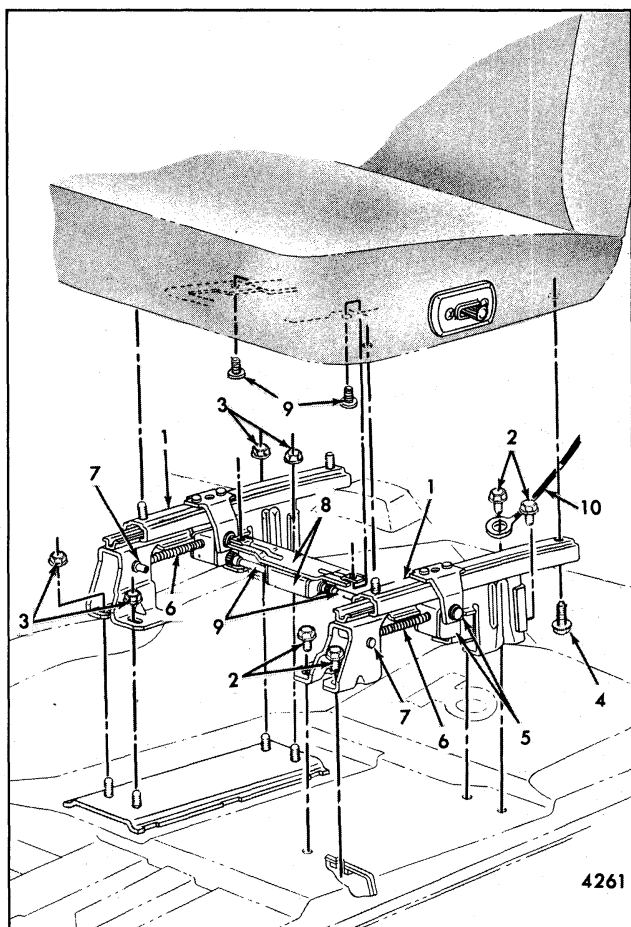

Fig. 9-12-Power Operated Horizontal Seat and Adjusters - 60-40, 50-50 and 40-40 Seats
5. Fig. 9-12-Power Horizontal 60-40, 50-50 and 40-40 Driver's Seat
| 5. Fig. 9-12-Power Operated Horizontal (Two-Way) 60-40, 50-50 Seat | 9. Fig. 9-17-"A" Body Six-Way Seat and Adjusters |